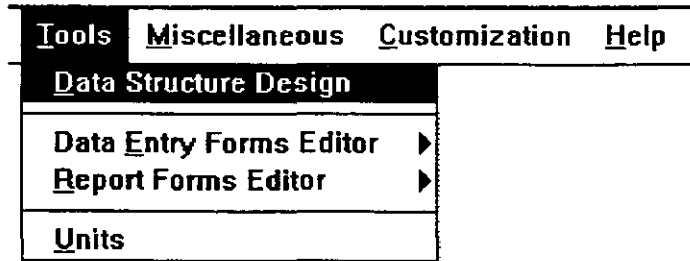

Figure 4-1
1. Select **Tools** from the Main GWW menu bar. The submenu as shown in Figure 4-1 will appear.